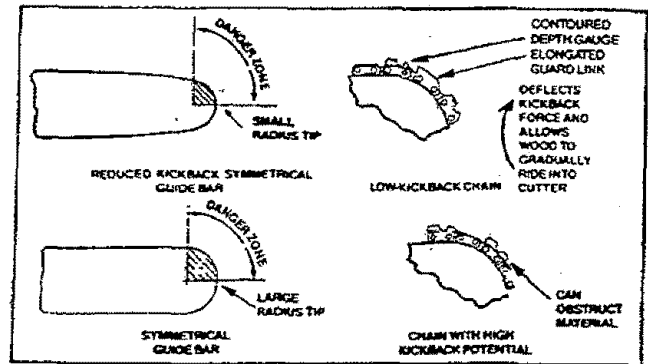

Figure 5
- **Reduced-Kickback Guide Bar**, designed with a small radius tip which reduces the size of the kickback danger zone on the bar tip. Figure 5. A Reduced-Kickback Guide Bar is one which has been demonstrated to significantly reduce the number and seriousness of kickbacks when tested in accordance with the safety requirements for gasoline powered chain saws as set by the American National Standards Institute, Inc., Standard B175.1-1985.
- **Low-Kickback Chain**, designed with a contoured depth gauge and guard link which deflect the kickback force and allow wood to gradually ride into the cutter. Figure 5. Low-Kickback Saw Chain is chain which has met the kickback performance requirements of ANSI B175.1 when tested on a representative sample of chain saws below 38 cubic inch displacement specified in ANSI B175.1-1985. (American National Standard for Power Tools - Gasoline Powered Chain Saws - Safety Requirements).